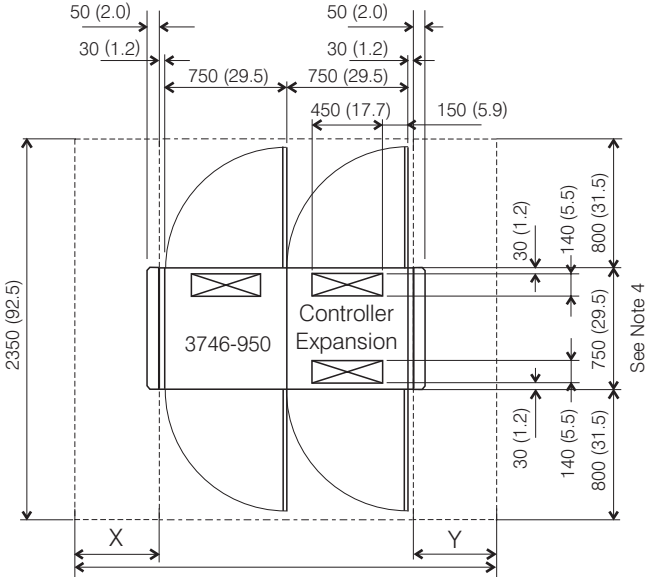

Figure 1-2. Plan View of a 3746-950 Configuration
Note: The controller expansion can be attached to the 3746-950 (see Figure 1-2) or detached but no more than 6 meters (with the standard token ring cable shipped with the machine) from the 3746-950 (see Figure 1-4 on page 1-4 and Figure 1-5 on page 1-4). If two controller expansion are installed refer to Figure 1-8 on page 1-5 and Figure 1-9 on page 1-5.
- Step 9. Make sure that the installation area is in accordance with Figure 1-2 on page 1-3. If not, inform the customer.